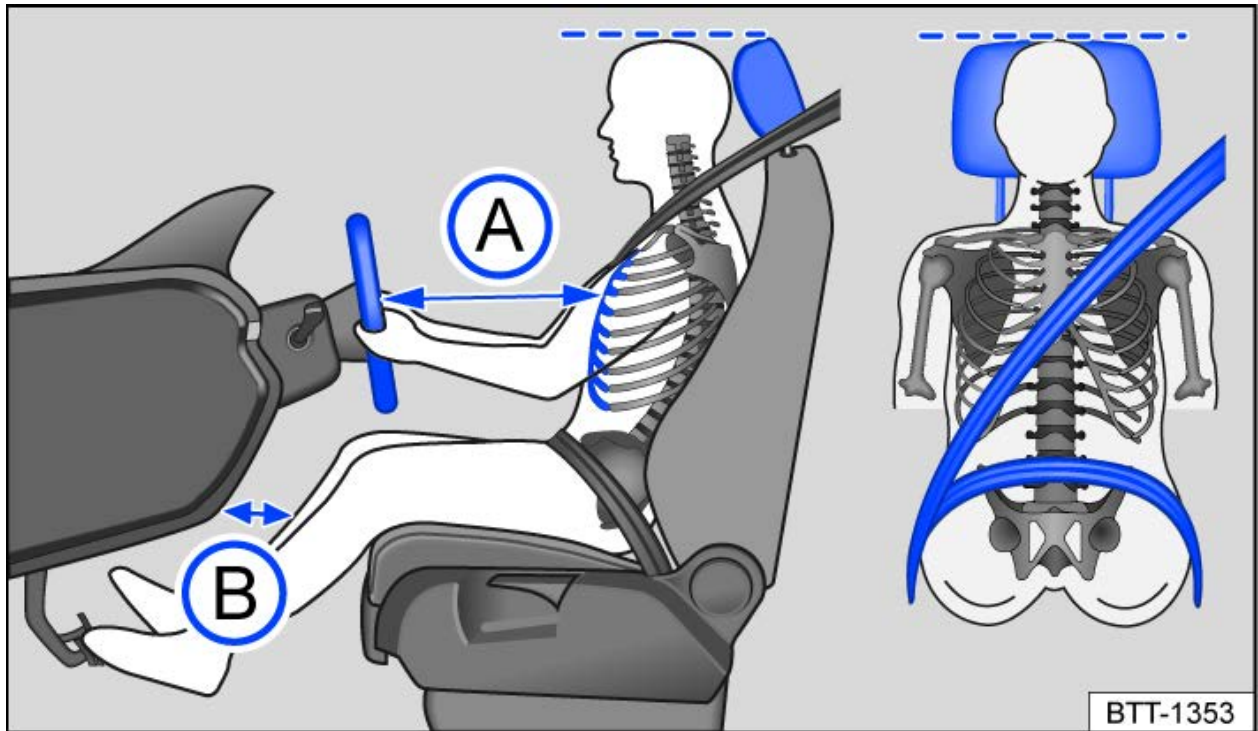

Fig. 1 General example: correct distance between the driver and steering wheel, correct safety belt routing, and correct head restraint adjustment.
- Adjust the head restraint so that the upper edge of the head restraint is in line with the upper portion of the head as much as possible, but not lower than eye level. Position the back of the head as close as possible to the head restraint → *fig. 1*.